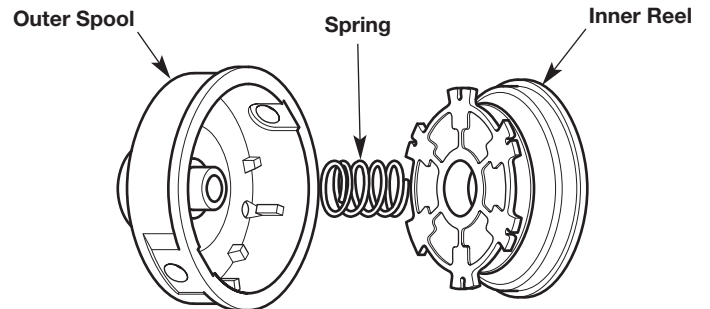

Fig. 17
4. Remove the inner reel from the outer spool (Fig. 17).
5. Remove the spring from the inner reel (Fig. 17).